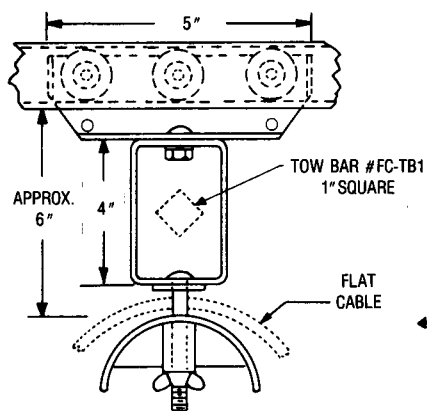
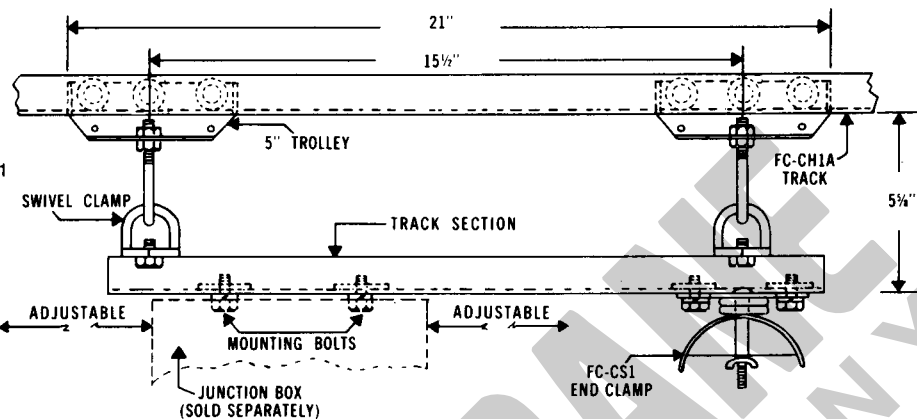

FIGURE 83
FIGURE 84
11. Install tow bar on equipment to be electrified in order that the tow bar will be centered within the tow trolley. Refer to Figure 83. This is not required when cable is fed to a control trolley. Instead, install junction box on control trolley. Refer to Figure 84.